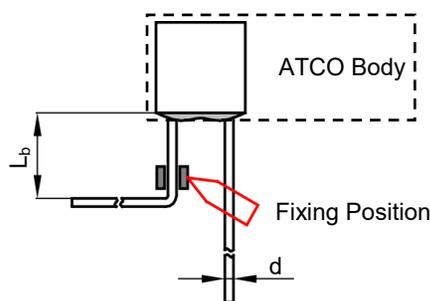

FIGURE G-2
2. When bending leads, please use pincher or similar tools to fix the product as shown in Fig.G-2, to avoid damaging the product.